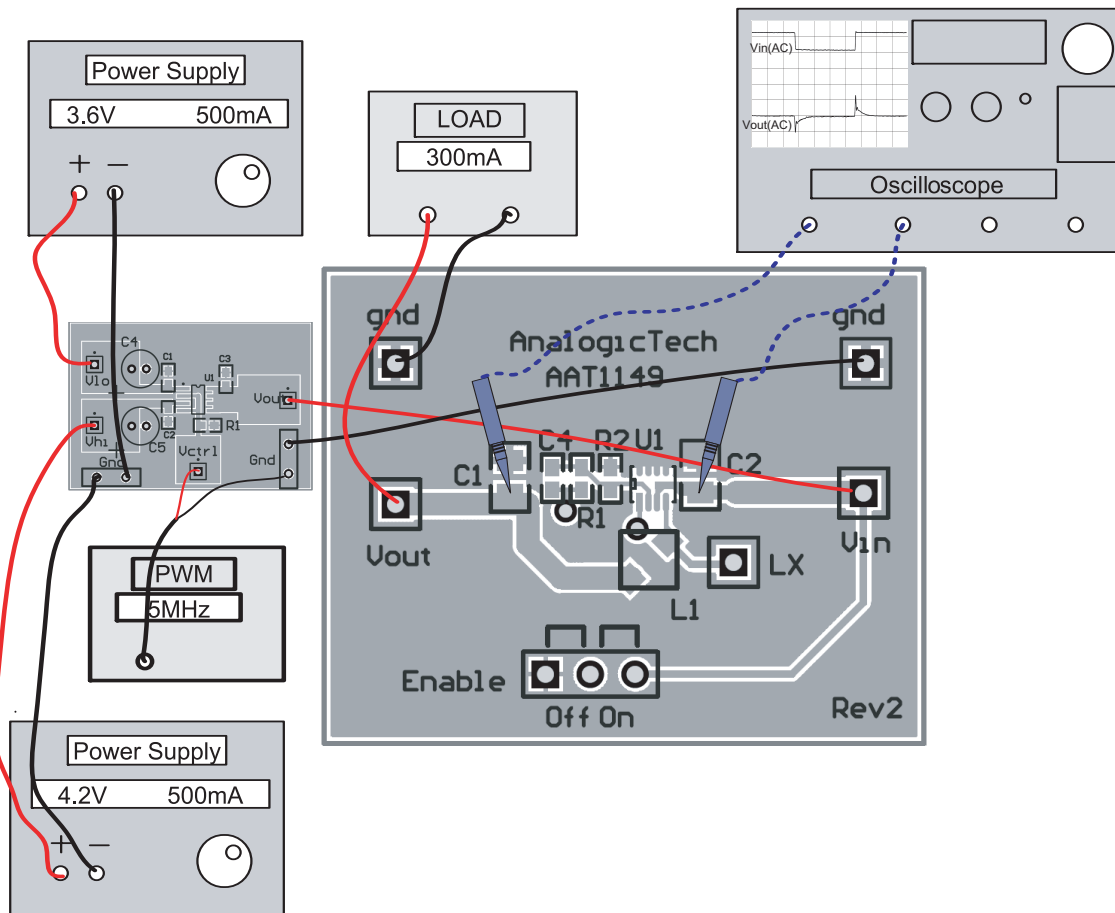

Figure 3: AAT1149 Evaluation Board Connection Diagram for Line Transient Response.
1. Configure the specified test equipment as shown in Figure 3.